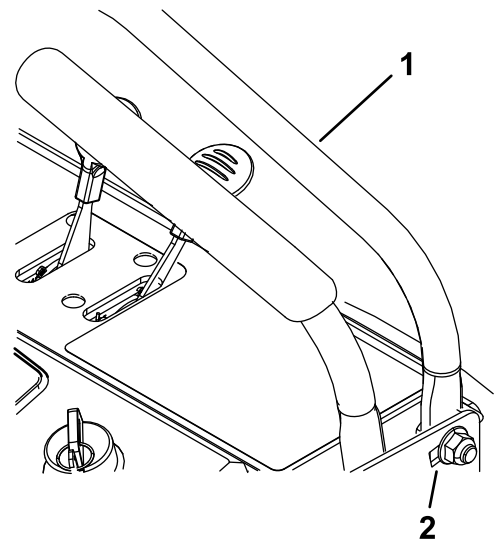

Figure 28
2. Loosen the nuts on each side of the control panel (Figure 28).